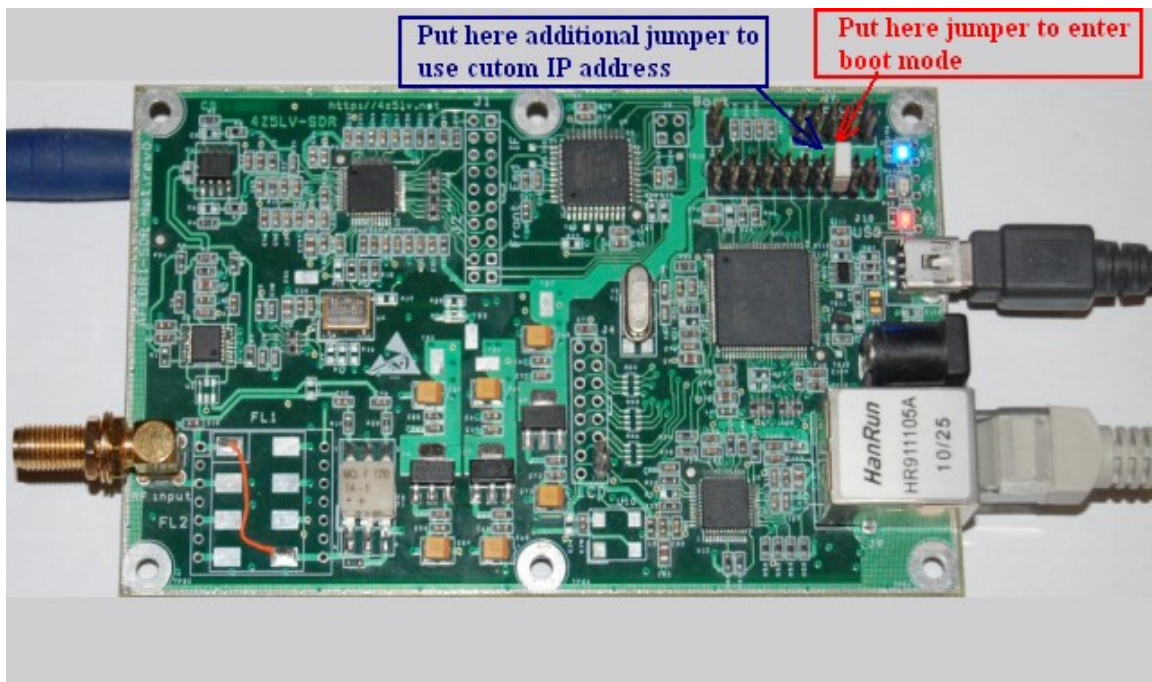
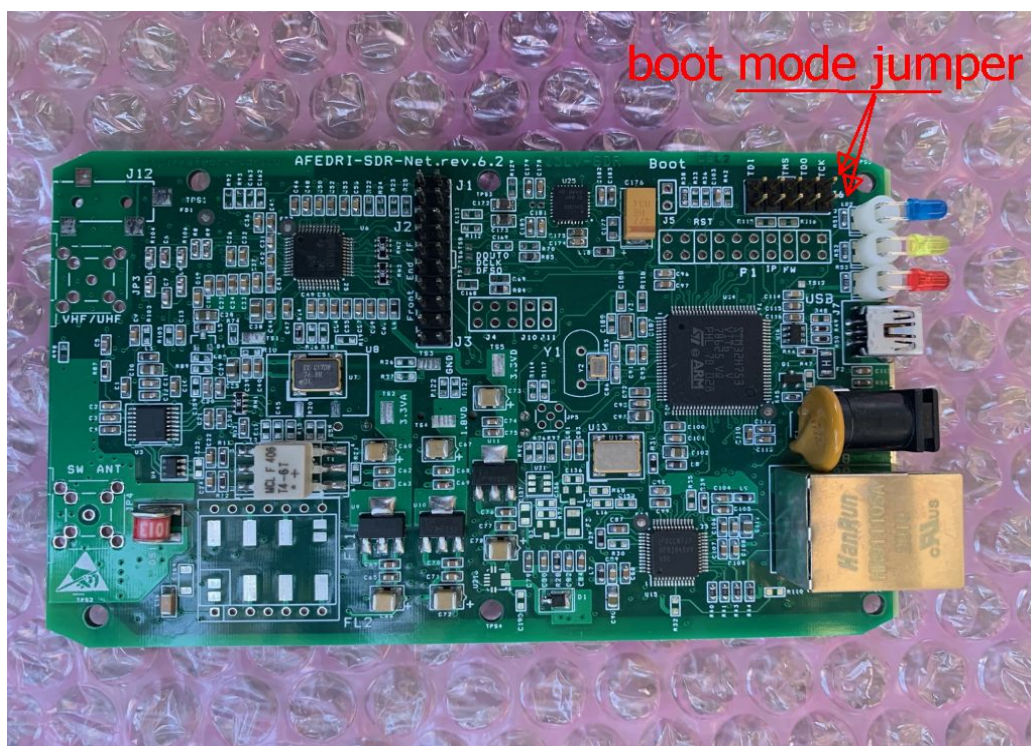

Figure 13 AFEDRI SDR-Net hardware rev.0 – rev.6.1, boot-mode jumper position on JTAG (P1) connector, for firmware upgrade mode
Figure 14 AFEDRI SDR-Net hardware rev.6.2 and up, boot-mode jumper position on J6 (Encoder) connector, for firmware upgrade mode
- 3.1.10. For PCB revisions **rev.1.0** up to **rev.6.1** , set jumper between pins 5 and 6 of JTAG connector P1 (see Figure.13). For PCB revisions rev.6.2 and higher set jumper between pins 1 and 2 connector J6 (see Figure.14). (Revision number is printed on PCB).